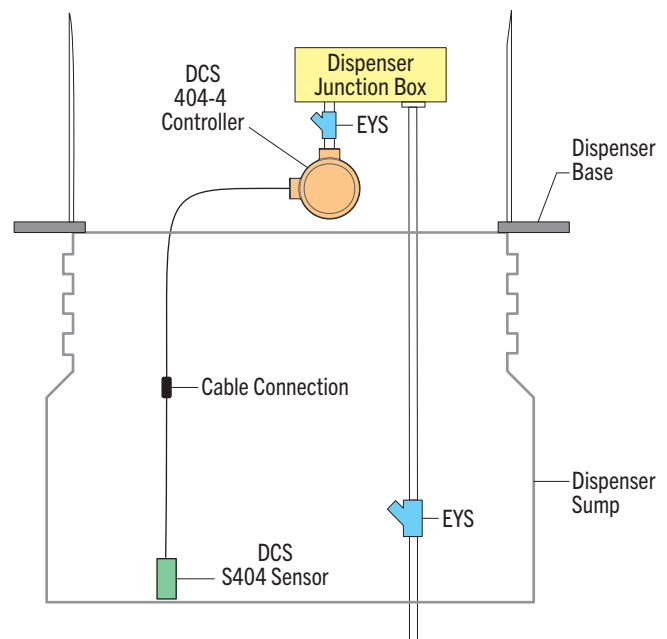

Figure 1 – Typical system installation in a dispenser sump.
4. Determine where to best locate the DCS controller and how best to plumb conduit from the dispenser spare conduit hub to the controller. The controller must be located so that regular servicing of the dispenser (such as changing of fuel filters) will not be impeded. The controller can be located in the dispenser hazardous area or suspended down below the dispenser in the dispenser sump as room dictates (see Figure 1).